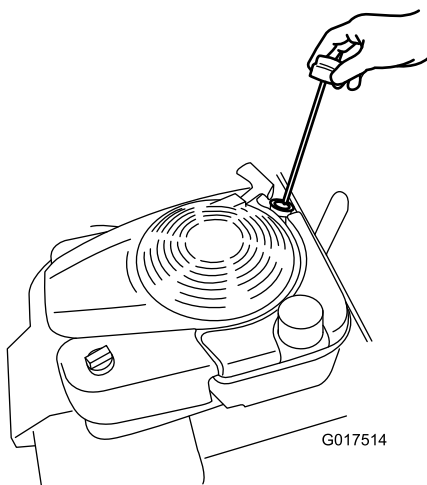

Figure 12
2. Remove the dipstick (Figure 12).